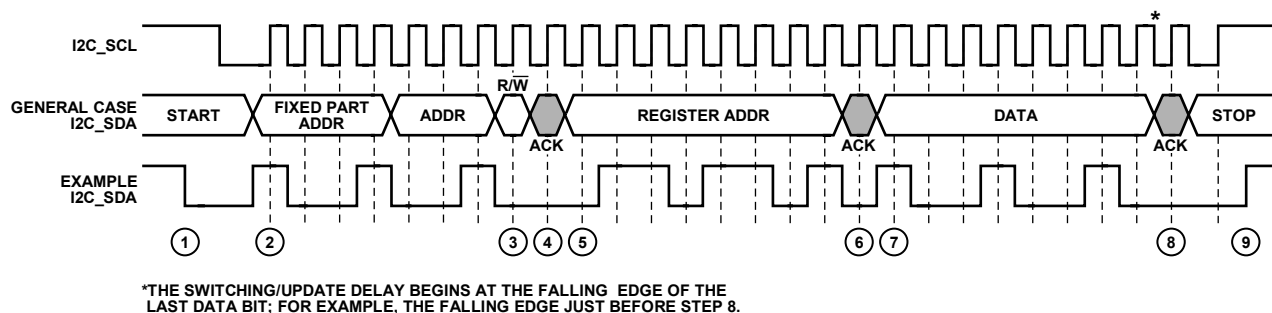

Figure 29. I²C Write Diagram
To write data to the AD8197B register set, an I²C master (such as a microcontroller) needs to send the appropriate control signals to the AD8197B slave device. The signals are controlled by the I²C master, unless otherwise specified. For a diagram of the procedure, see Figure 29. The steps for a write procedure are as follows:
3. Send the write indicator bit (0).
- 9a. Send a stop condition (while holding the I2C_SCL line high, pull the I2C_SDA line high) and release control of the bus to end the transaction (shown in Figure 29).
There is a delay between when a user writes to the configuration registers of the AD8197B and when that state change takes physical effect. This update delay occurs regardless of whether the user programs the AD8197B via the serial or the parallel control interface. When using the serial control interface, the update delay begins at the falling edge of I2C_SCL for the last data bit transferred, as shown in Figure 29. When using the parallel control interface, the update delay begins at the transition edge of the relevant parallel interface pin. This update delay is register-specific and the times are specified in Table 1.